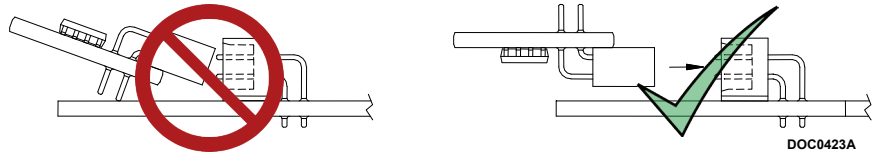

Figure 6. License Key Installation
6. Press the license key into the terminal until it is firmly seated (refer to *Figure 6*).